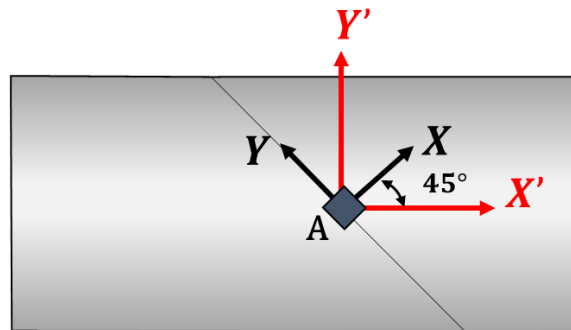

Figure 3A: Structure with element A
A point A on the structure in Figure 3A is subjected to in-plane stresses as shown in Figure 3B.
- (c) Determine the normal and shear stresses in the X'-Y' directions, draw a stress element to show the calculated stresses, and mark the state of stress in the X'-Y' directions on the Mohr's circle. Note: The X' axis is oriented at 45° from the X axis as shown in Figure 3A.